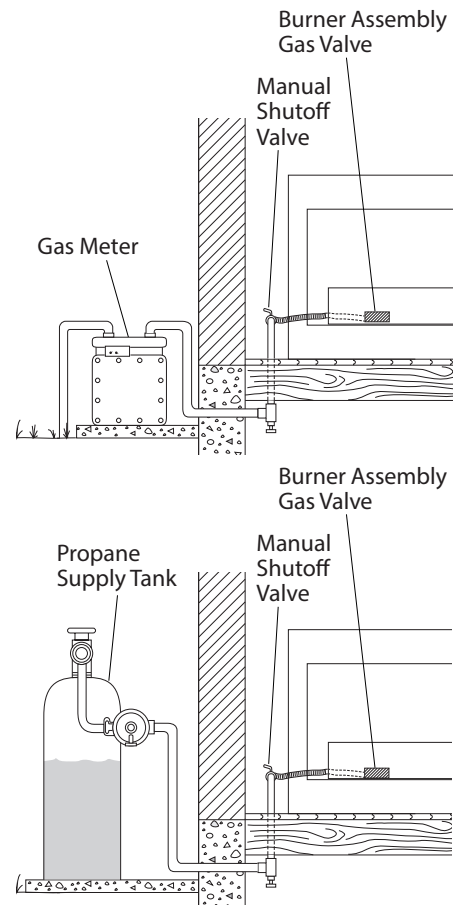

Figure 5.10 - Checking Gas Joints
3. Check all joints from gas meter to manual shutoff valve (see Figure 5.10). Apply mixture of liquid soap and water to gas joints. Bubbles forming show a leak.
4. Check all joints from manual shutoff valve to burner assembly gas valve (see Figure 5.10). Apply mixture of liquid soap and water to gas joints. Bubbles forming show a leak.